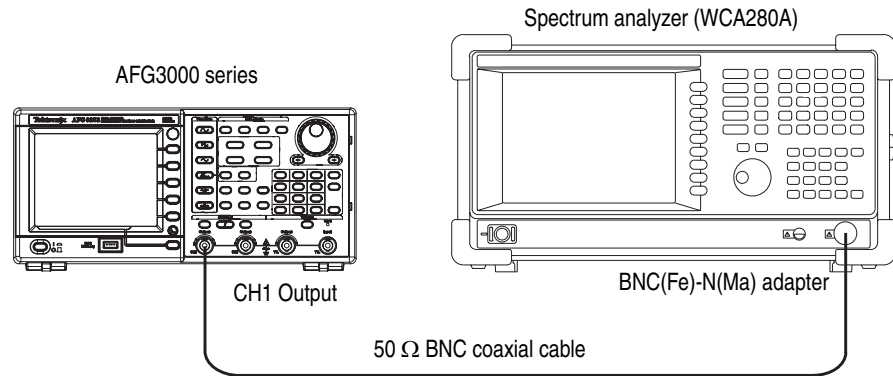

Figure 4-7: Harmonic distortion tests
1. Connect the arbitrary/function generator to the spectrum analyzer as shown in Figure 4-7.